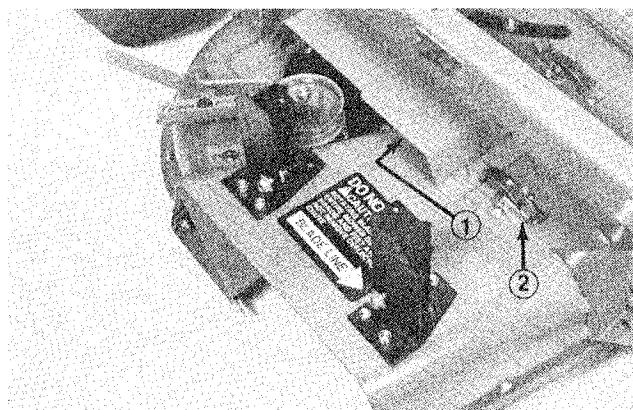

Figure 11
- 3. Install new spindle pulley cover on cutting deck (Fig. 11).
- 4. Hook latch to front of cover and engage latch (Fig. 11).
- 5. Locate and mark position of latch mounting holes on deck. Drill (2)  $7/32"$  dia. holes thru deck. Secure latch to deck with (2) machine screws and flange nuts (Fig. 11).
- 6. Apply warning decal to deck nest to blower assembly (Fig. 11).